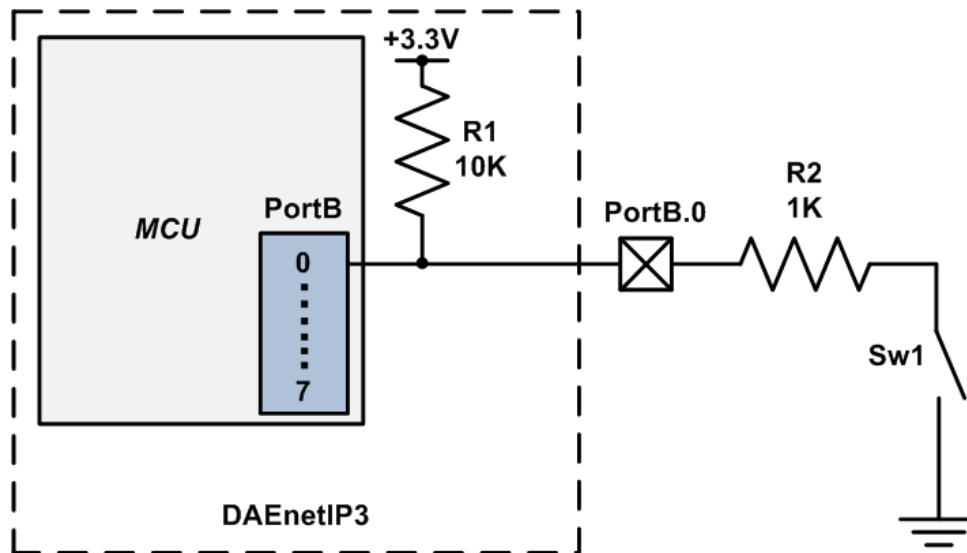

Figure 76. Connecting switch to PortB.0
DAEnetIP3 has 8 digital inputs port. This port is called Port B. Each output line has pull-up resistor 10K to 3.3V (figure 76). When the input is not connected, its state is high (1). **Be careful, the inputs are connected directly to the MCU pins. Incorrect connections or over-voltage may damage the DAEnetIP3 controller! That's why it is recommend to use R2 resistor in the following way.**